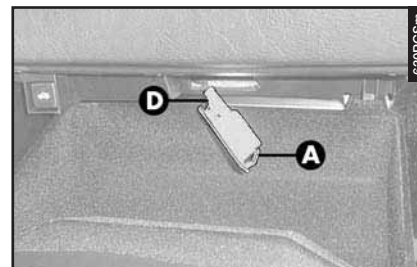

fig. 76
- Remove the light pushing with a screwdriver on the tab (**A-fig. 76**)
- Re-install the light inserting it in the correct position firstly on one side (**D-fig. 76**) and then pushing on the other until the tab clicks.